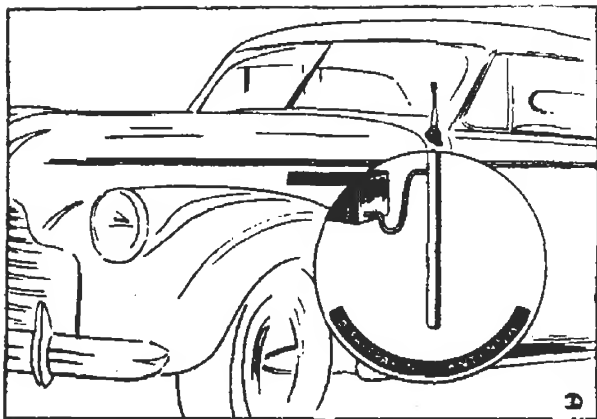

FIG. 13. A disappearing side-cowl type, which can be extended for distance reception.
► Some antennas are made even more inconspicuous by being mounted so they disappear into the cowl or fender. Fig. 13 shows an installation in which a hole is drilled through the cowl and the antenna is mounted in a tube inside the car. Some antennas of this type are manually extended, while others are operated by compressed air obtained from the engine. Fig. 14 shows a fender-mounted type.